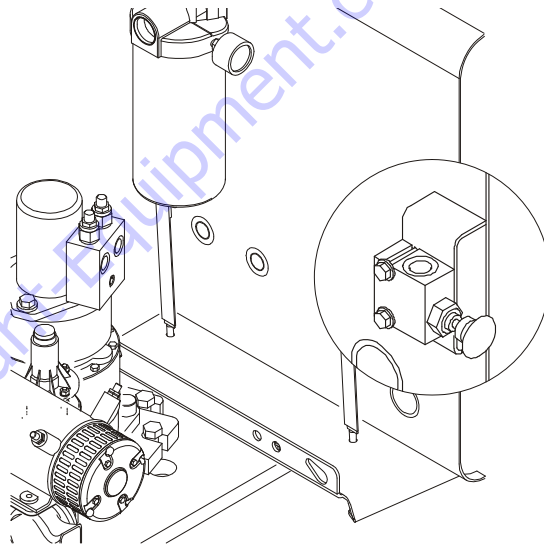

Figure 4-9. Releveling Valve
3. Pull and hold the red relevel knob located next to the main control valve. Refer to Figure 4-9.